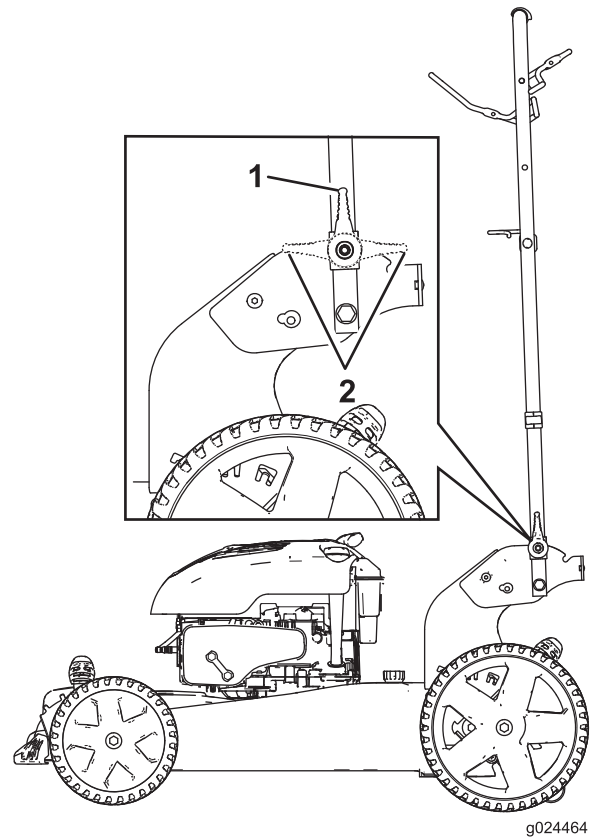

Figure 29
2. Fold the handle forward either to the vertical position or the fully forward position as shown in Figure 29.